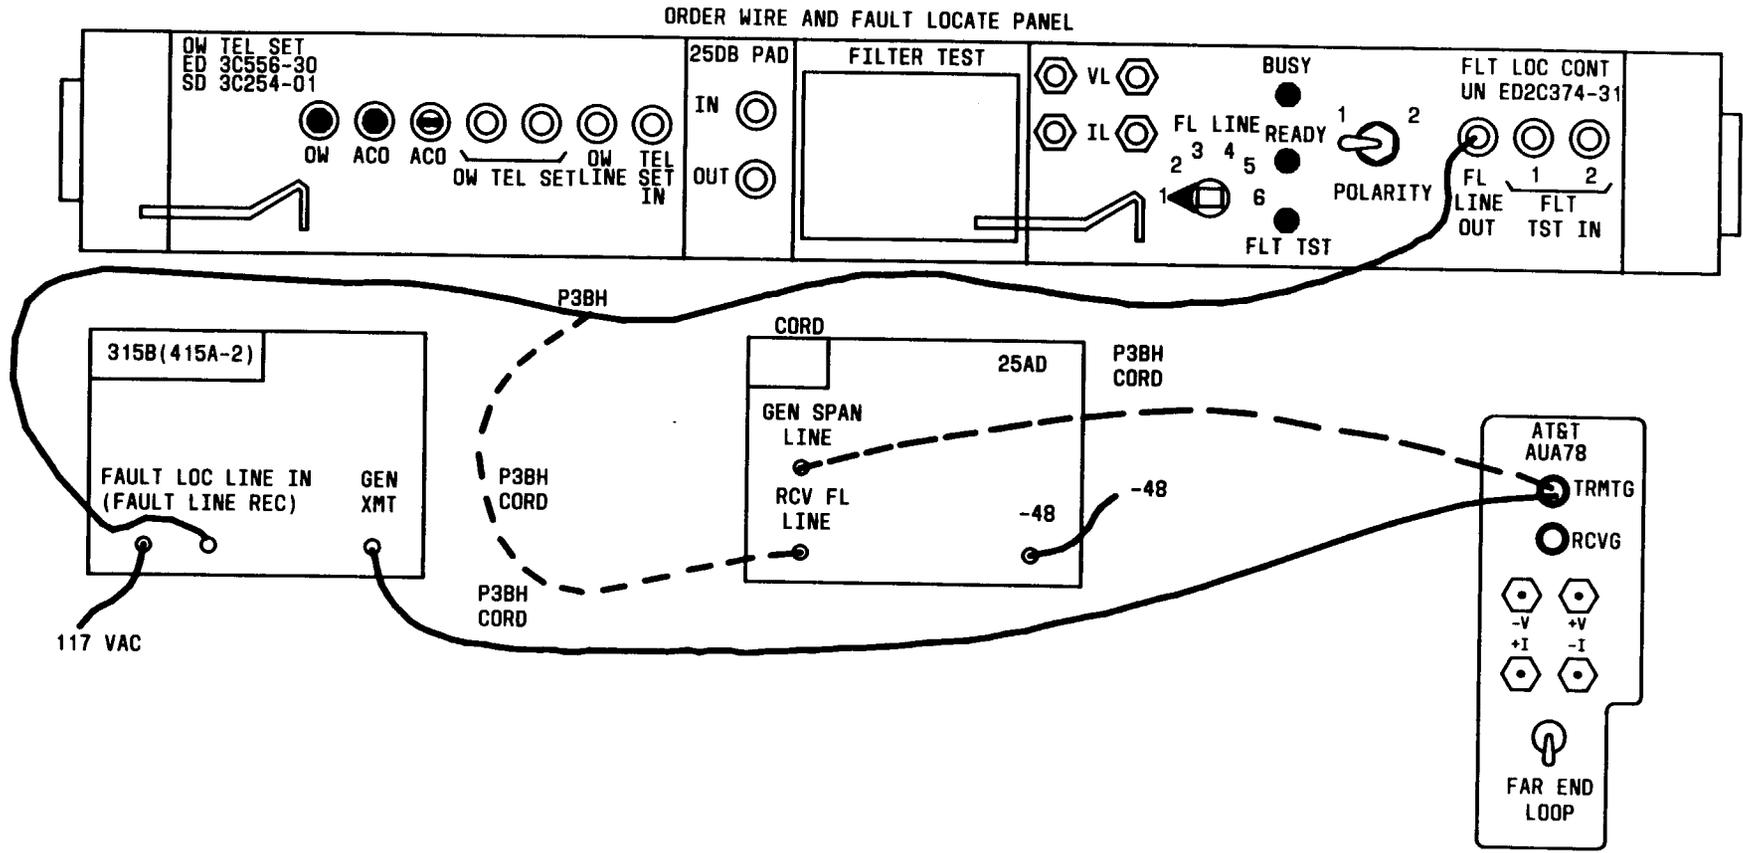

Fig. 1—COT Fault-Locating Configuration
11. At FL panel, set FL LINE switch to number of fault-locate line being used (FIG. 1).
12. Make test connections as shown in FIG. 1.